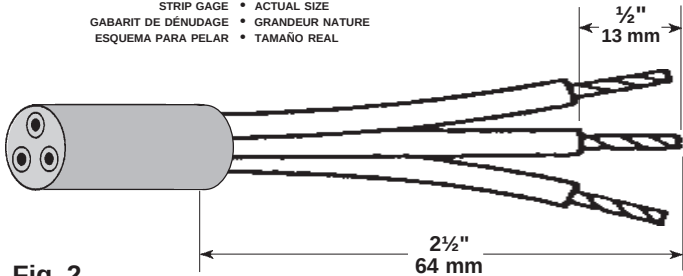

Fig. 2
2. Strip cord jacket and conductor insulation as shown in Fig. 2.